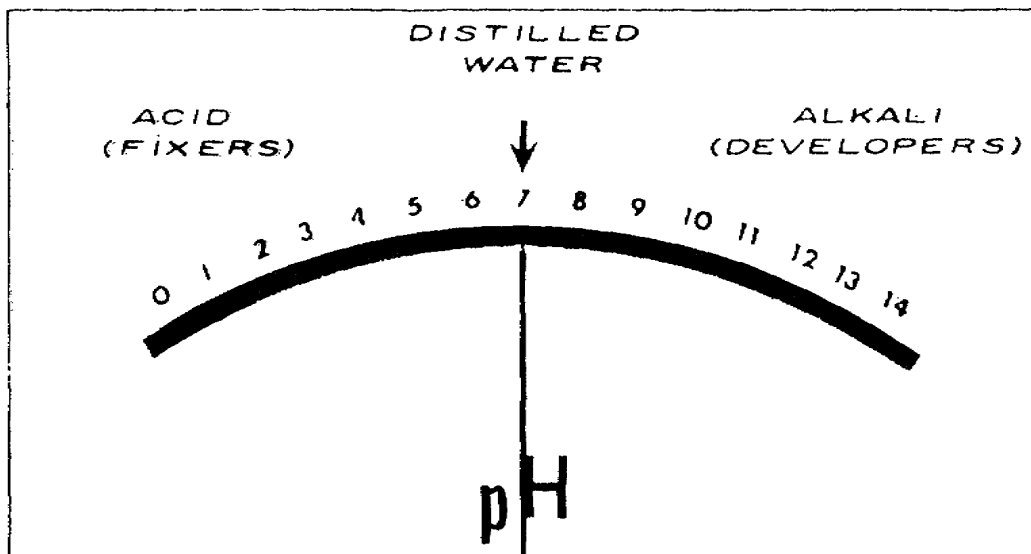

Figure 1
- a. The pH scale on the meter (figure 1) ranges from 0 to 14. The center of the scale is a pH of 7 and represents distilled water, which is chemically pure water. It is neither acid nor alkaline.